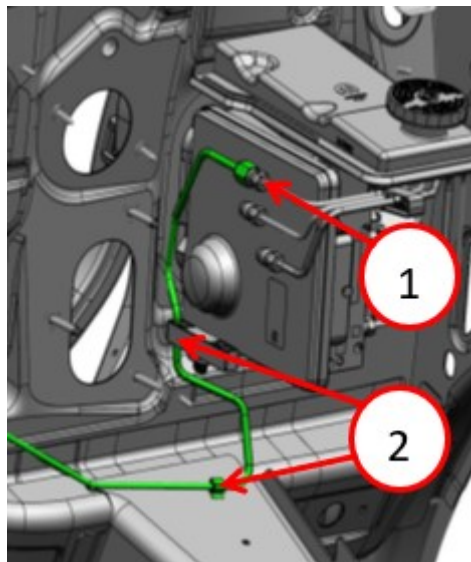

Fig. 4
11. Unthread the right front brake line fittings and release retainers from the right brake line at BSCM (Fig. 4) .